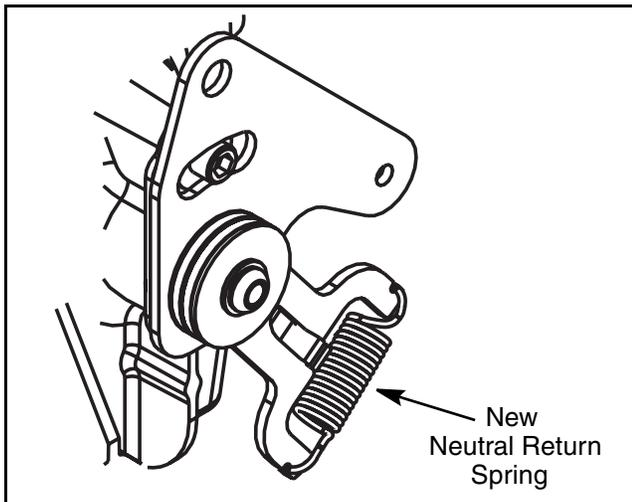

FIGURE 3
5. Install the new Neutral Return Spring, Item 5, onto the two arms as shown in Figure 3.
4. With a suitable set of pliers or spring removal tool, remove and discard the existing spring from the neutral return mechanisms two arms on the remaining (not replaced with this kit) hydrostatic transmission. See Figure 3.